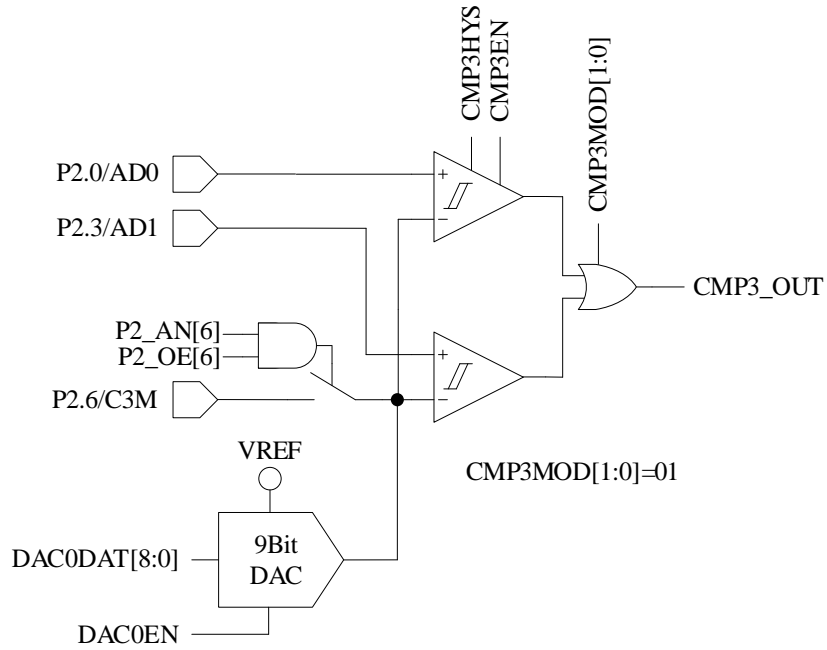

Figure 29-3 Dual-comparator Input Mode
- When CMP_CR1[CMP3MOD] = 01, CMP3 works in Dual-comparator Input Mode. The connection of input and output pins are shown in Figure 29-3.